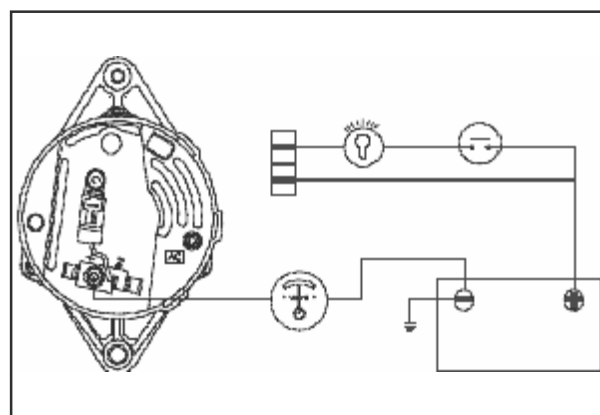

Fig 8
**TEST 5 - Checking voltage drop in charging circuit (Fig. 8)**
Use a voltmeter to check for high resistance (poor connections) in the charging circuit, see Fig. 8.